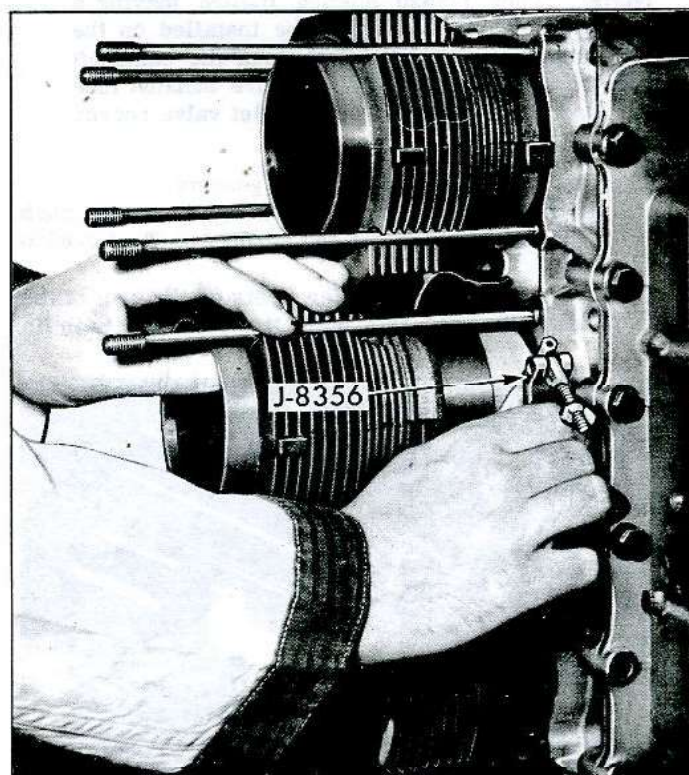

Fig. 41—Removing Tool from Piston Assembly
5. Install a new cylinder gasket over cylinder pilot and slide cylinder over piston and piston rings. Remove Tool J-8356, by unhooking clamp and pulling from piston assembly (fig. 41).